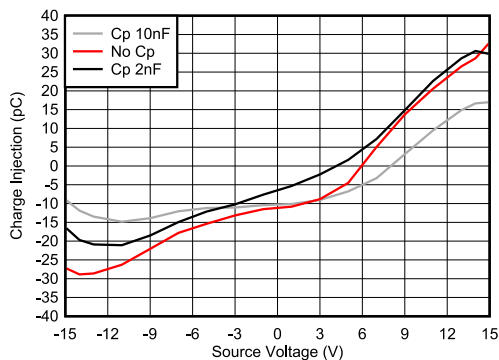

Figure 7-2. Charge Injection Compensation
The TMUX7219 contains specialized architecture to reduce charge injection on the source (Sx). To further reduce charge injection in a sensitive application, a compensation capacitor (Cp) can be added on the drain (D). This will ensure that excess charge from the switch transition will be pushed into the compensation capacitor on the drain (D) instead of the source (Sx). As a general rule, Cp should be 20× larger than the equivalent load capacitance on the source (Sx). Figure 7-2 shows charge injection variation with source voltage with different compensation capacitors on the drain side.